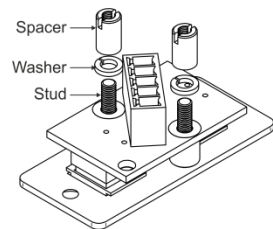

Figure 2: Removing the Front Panel
1. Unscrew the two spacers, remove the washers on the rear side of the insert and push out the two studs holding the front panel, see Figure 2.